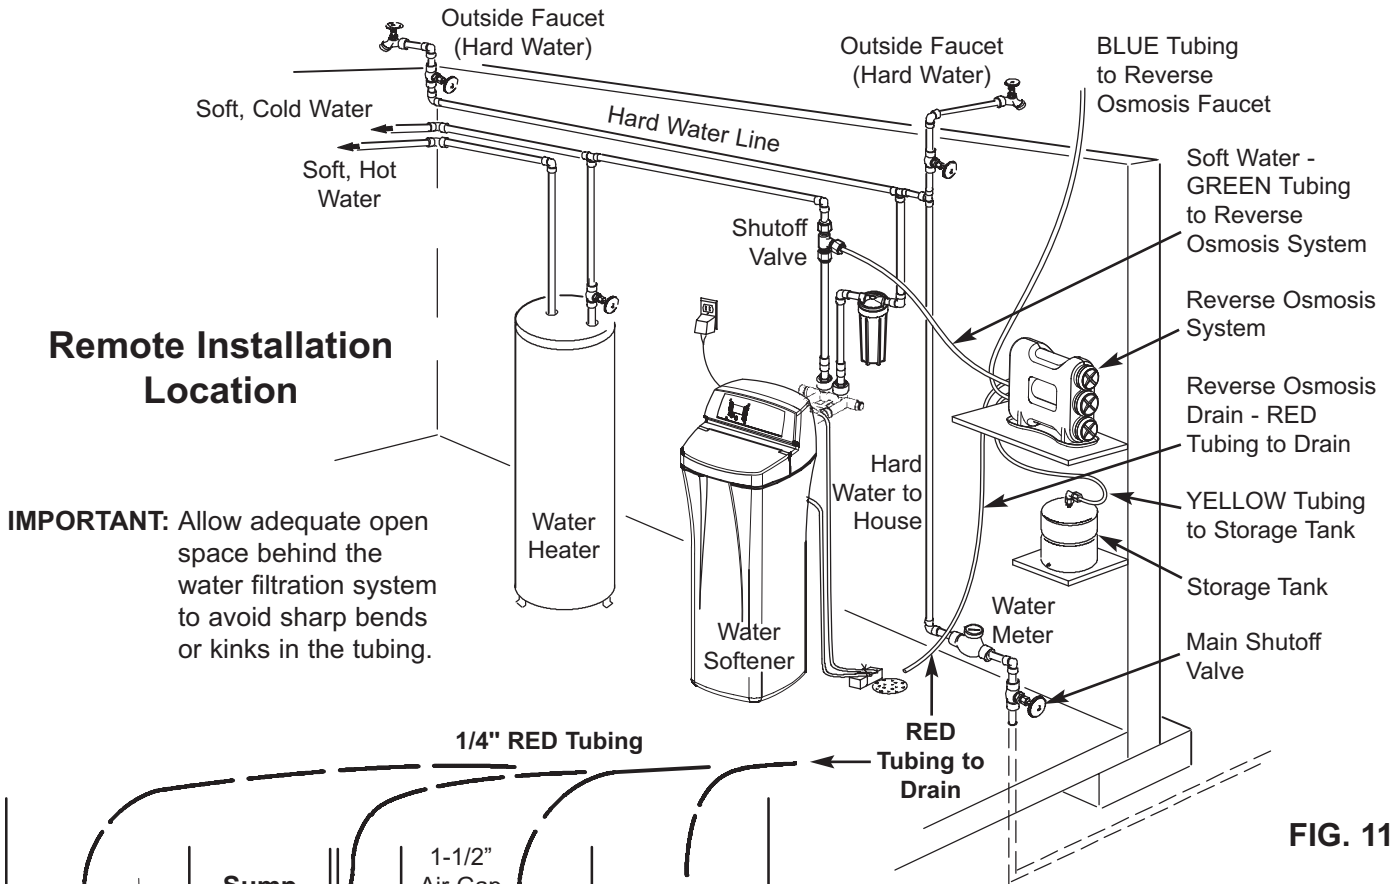

FIG. 11
As shown in Figures 11 and 12, the drain tube from the RO filter runs directly to an open drain. This is often used for remote location installations.
1. Locate the 1/4" red tube and determine whether it is long enough to reach from the Reverse Osmosis filter assembly to the drain point. See Fig. 11.